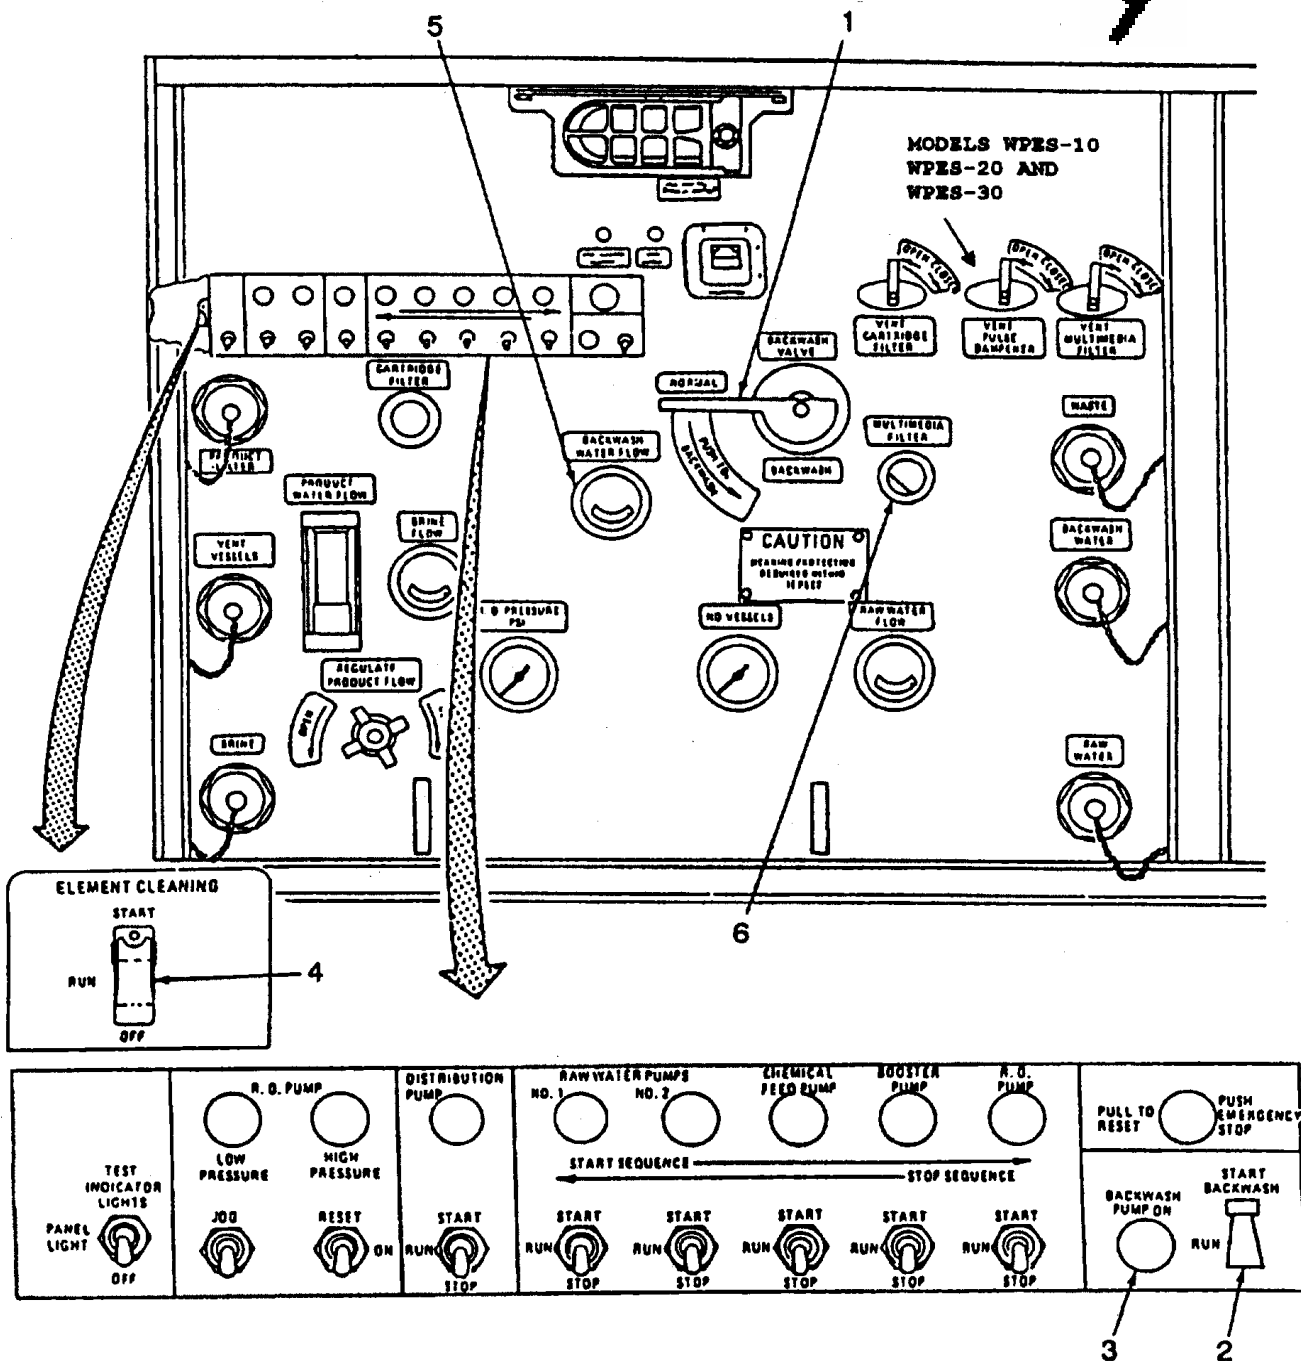

Figure 2-66. Backwash of Multimedia Filter.
- (1) Perform normal shutdown of ROWPU (para. 2-14).
- (2) Make sure R.O. ELEMENT CLEANING switch (4, figure 2-66) on side of control panel is down (off).
- (7) Turn BACKWASH VALVE (1, figure 2-66) handle downward to BACKWASH.